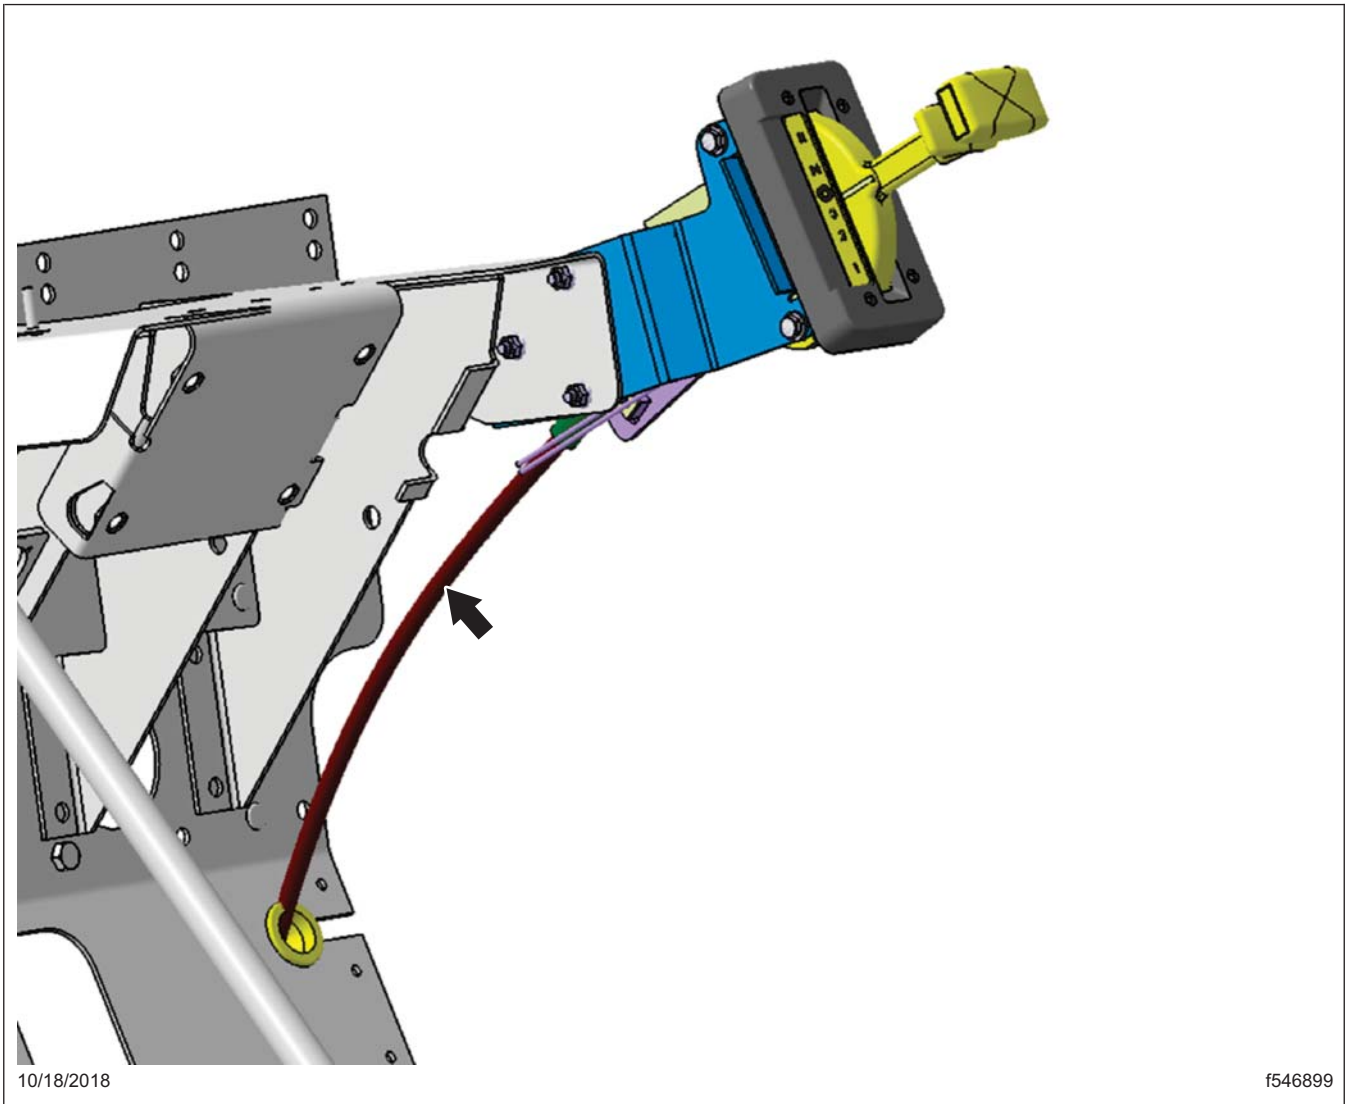
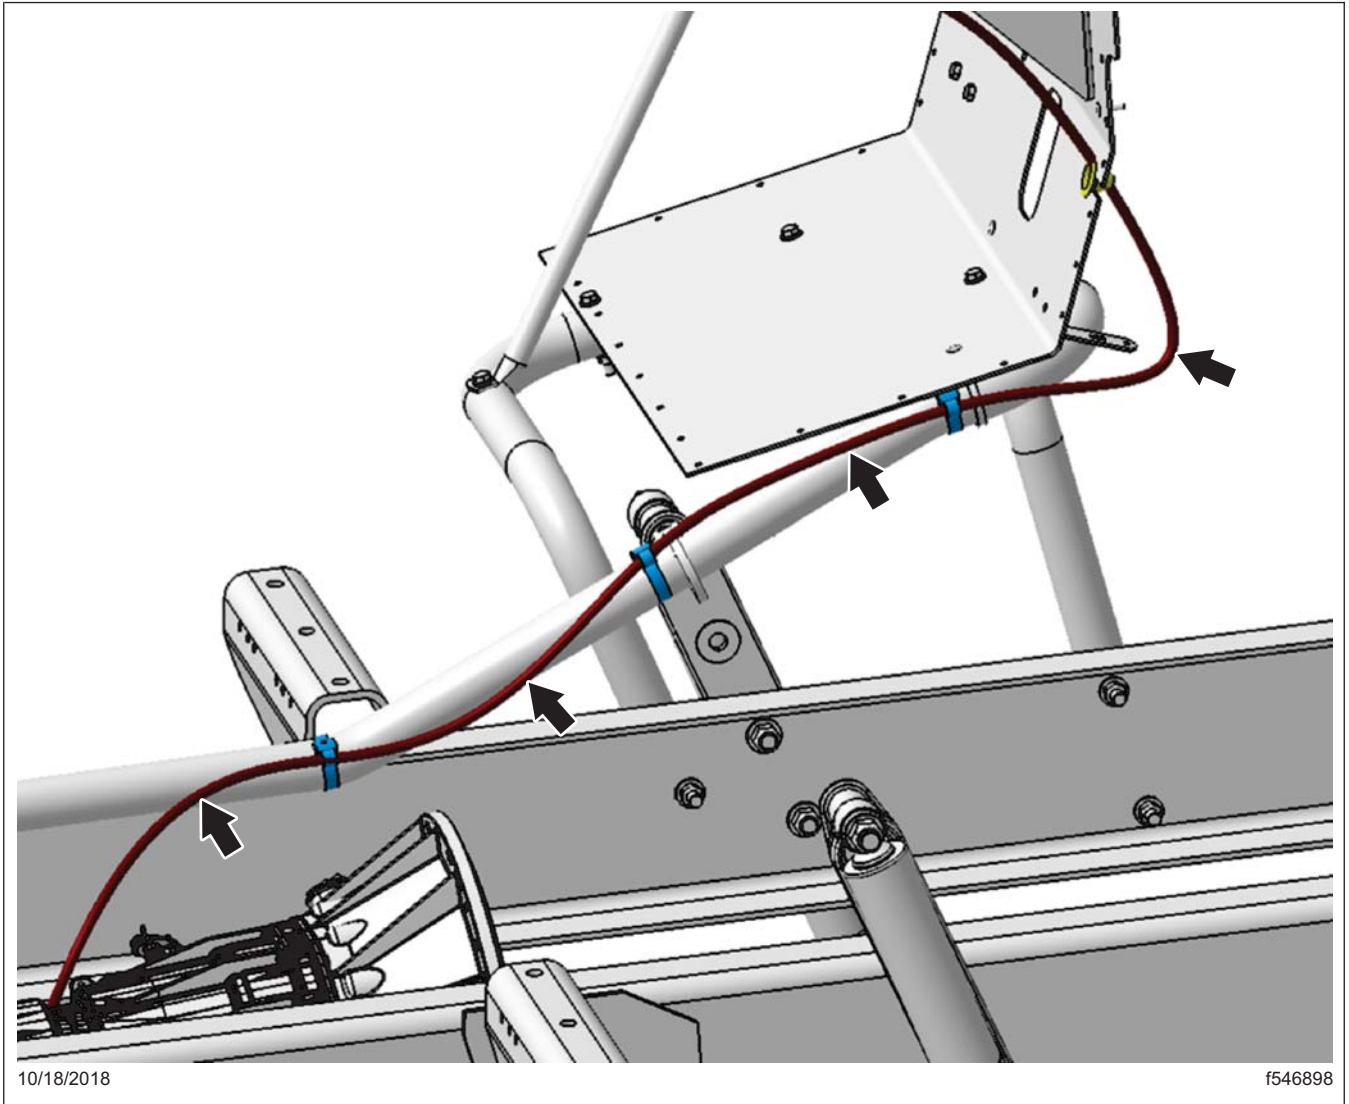

Fig. 3, Transmission Shifter Cable, Inside the Vehicle
Fig. 4, Transmission Shifter Cable Routing to the Transmission
12. Inspect the entire length of the transmission shifter cable for signs of melting or heat damage. See Fig. 2, Fig. 3, and Fig. 4.